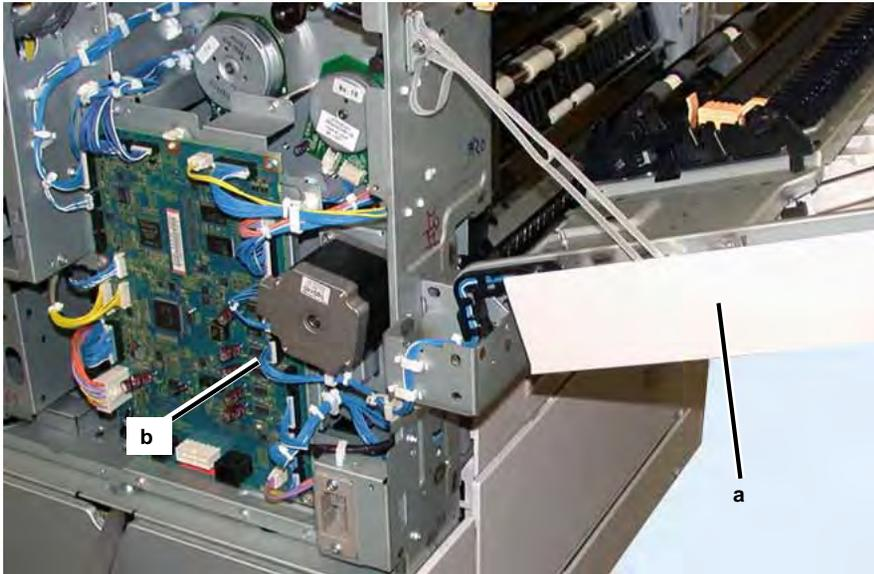

Figure 1 PJ
3. Perform the following (Figure 1).